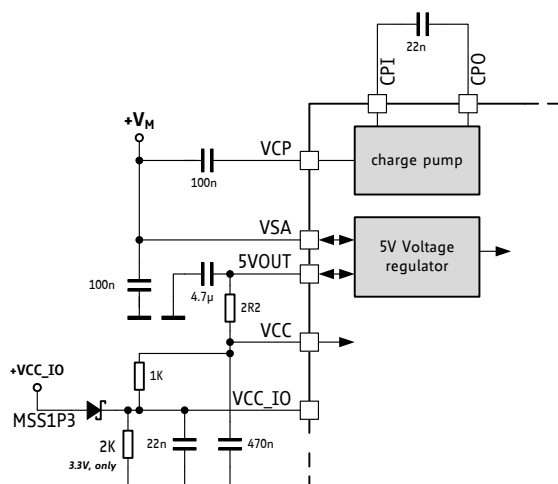

Figure 3.2 External supply of VCC IO (showing optional filtering for VCC)
- VCC_IO can be supplied externally as shown in Figure 3.2 . In this case it is mandatory to connect the Schottky diode to the logic supply of the external circuitry. Please note, that the 2K resistor is not to be used with 5V I/O voltage.